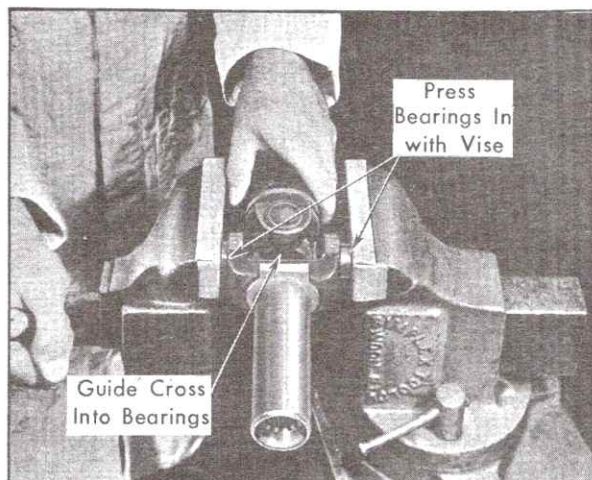

Fig. 4-25 Installing Universal Joint Bearing
4. Start opposite bearing into propeller shaft yoke and place in vise with jaws against bearings, Fig. 4-25.